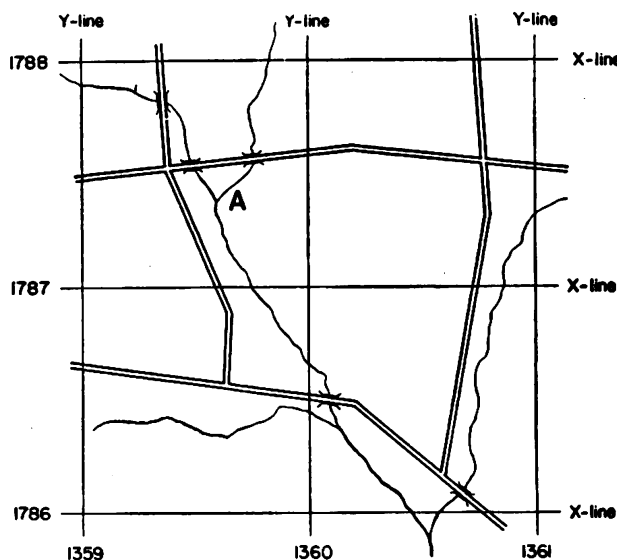

FIGURE 145.—Rectangular coordinates. 1,000-yard grid printed upon a terrain map. (1 : 20,000 scale.) (Not reproduced to scale.)
*Q.* Point out and name the conventional signs shown in figure 145.—*A.* See figure 144.
- (1) *Black.*—All artificial features, such as houses and roads.
- (2) *Blue.*—All water, such as streams, ponds, and lakes.
- (3) *Green.*—Vegetation, such as woods and grassland.
- (4) *Brown.*—The ground forms as shown by contours.
**160. Location of position by coordinates.**—*Q.* How are military maps divided?—*A.* Into squares 1,000 yards on a side by two sets of parallel lines, one of these sets being at right angles to the other. (See fig. 145.)
A. The country is divided into zones running north and south, each covering  $9^\circ$  of latitude. The central true meridians of adjacent zones are  $8^\circ$  apart, hence there is an overlap of  $1^\circ$  at the boundaries, included in both adjacent zones. The west longitudes of the central meridians of the zones are  $73^\circ$ ,  $81^\circ$ ,  $89^\circ$ ,  $97^\circ$ ,  $105^\circ$ ,  $113^\circ$ , and  $121^\circ$ . In each zone the Y-lines are all parallel to the central true meridian. The direction of the Y-line at any point is called grid north; it is the same as true north only at the center of the zone. The X-lines are perpendicular to the Y-lines, and so they are true east and west lines only at the center of the zone. In each zone the origin of coordinates, or zero point, is to the west and south of the zone, and hence all coordinates are positive. (See fig. 145.)